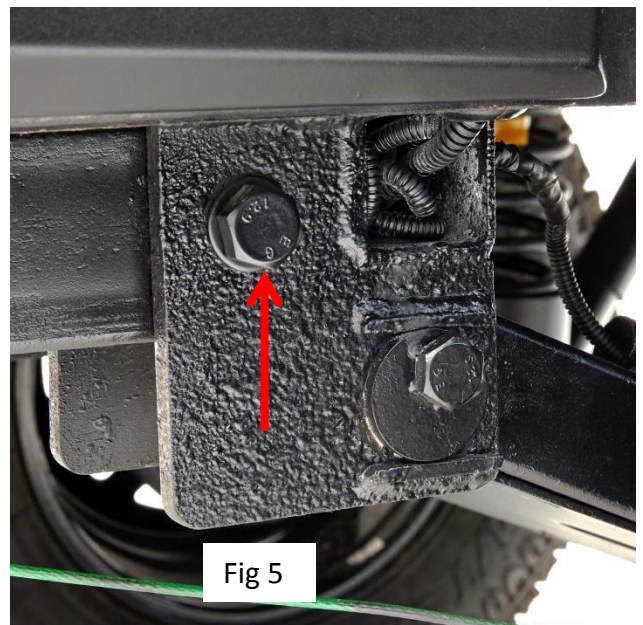

Fig 5
7. Loosely attach tongue to trailing arm bracket using M16 bolts, flat washers, lock washers and nuts. Do not tighten hardware at this time. hardware. Fig 5.